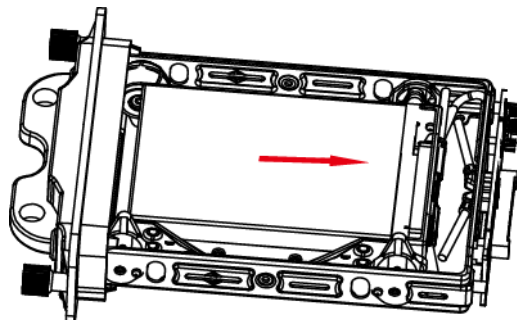

Figure 2-8 Push HDD
Step 6 Push the HDD along the direction shown in Figure 2-8 to connect HDD with socket of dummy HDD.